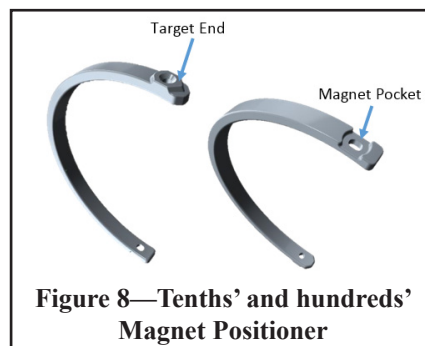
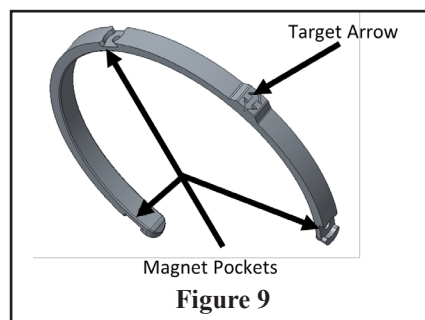

Figure 8—Tenths' and hundreds' Magnet Positioner
Figure 9
3. There are two magnet positioners. The hundreds' and tens' magnet positioner has two unique ends, see Figure 8. The first end is the target end that will point to the desired set point level, and the second end has a pocket for the magnet to set into. The ones' cm magnet positioner has three magnet pockets along with one target arrow, see Figure 9.
15. Magnet positioners must be evenly placed on the wheels as in Figure 9 and Figure 10.